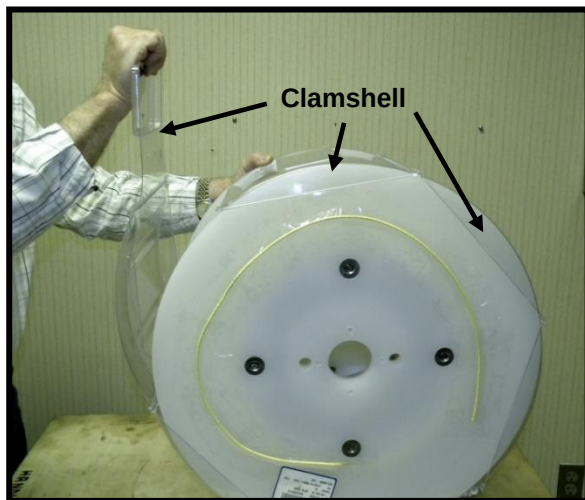

Figure 19
10.1 Remove the plastic protective cover (Clamshell) "Protective Wrapping" from the fiber reel. Do Not Cut, Damage or Discard the protective cover. Always Save the Clamshell for Re-Use or Storage. **See Fig. 19.**